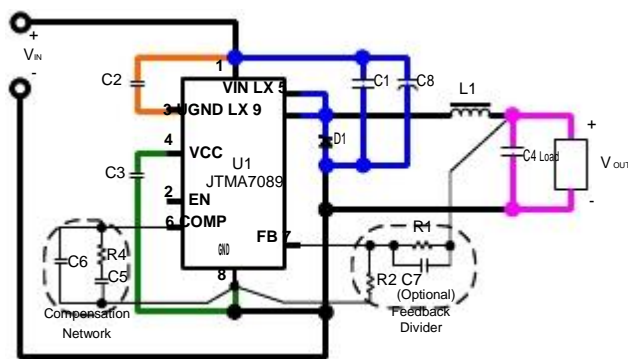

Figure 2. Current Path Diagram
In high power switching regulator, a correct layout is important to ensure proper operation of the regulator. In general, interconnecting impedance should be minimized by using short, wide printed circuit traces. Signal and power grounds are to be kept separating and finally combined using ground plane construction or single point grounding. Figure 2 illustrates the layout, with bold lines indicating high current paths. Components along the bold lines should be placed close together. Below is a checklist for your layout:
2. In Figure 2, the loops with same color bold lines conduct high slew rate current. These interconnecting impedances should be minimized by using wide and short printed circuit traces.